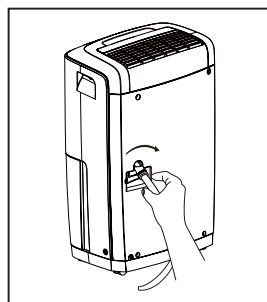

fig. 3
- Screw the garden hose onto the threaded portion of the drain connector. (fig.3)